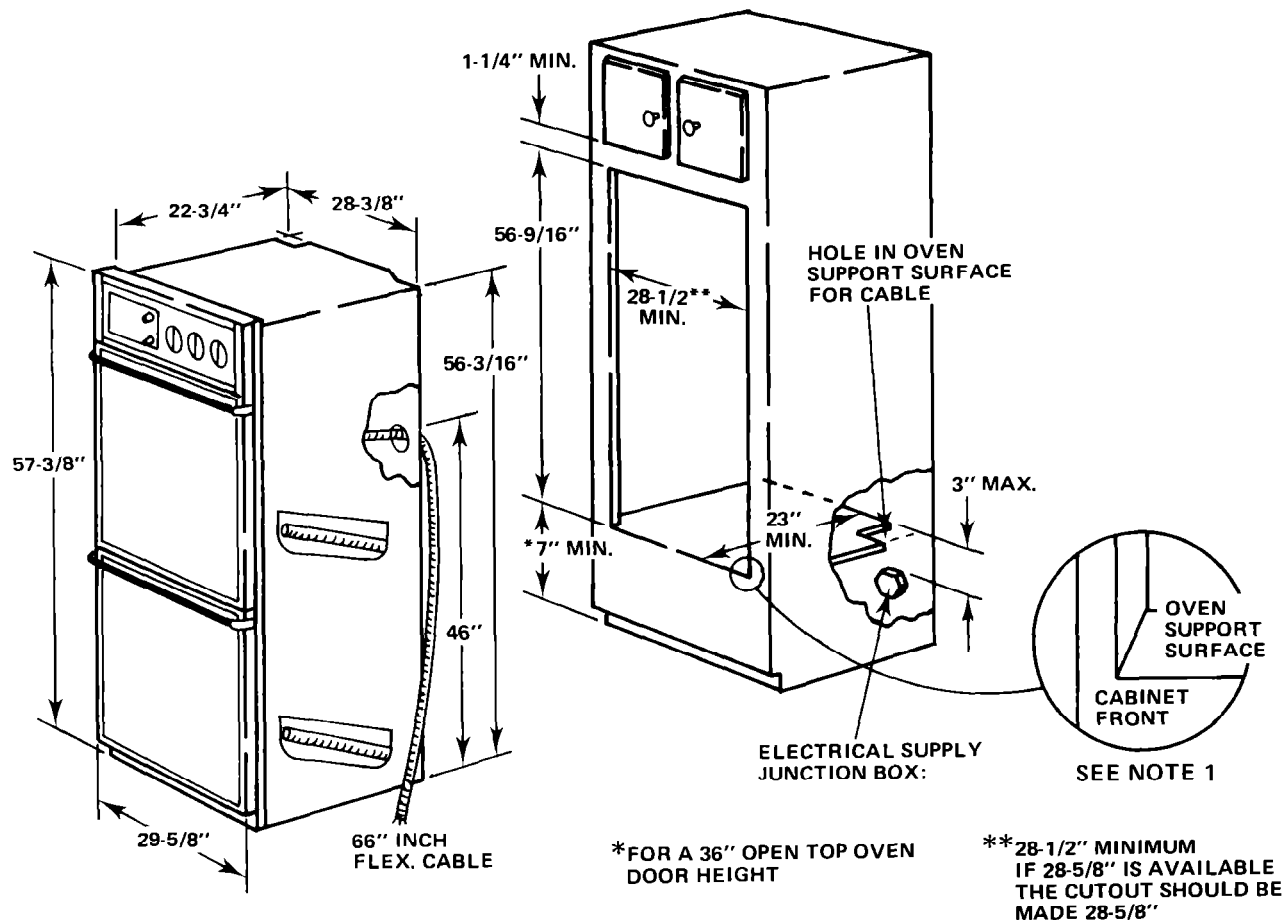

FIGURE 1 – Rough-In Dimensions
Refer to Figure 1 for the dimensions of the oven and the space necessary to receive the oven. The oven support surface may be solid plywood or similar material but the contact surface must be level from side to side and from front to rear. This surface is 2 3/4" below the open door height.
- B. The appliance should be connected to the fused disconnect (or circuit breaker) box through flexible armored or non-metallic sheathed cable. The flexible armored cable extending from the appliance should be connected directly to the junction box. The junction box should be located as shown in Figure 1 so that as much slack as possible remains in the cable between the box and the appliance so that it can be moved if servicing is ever necessary.